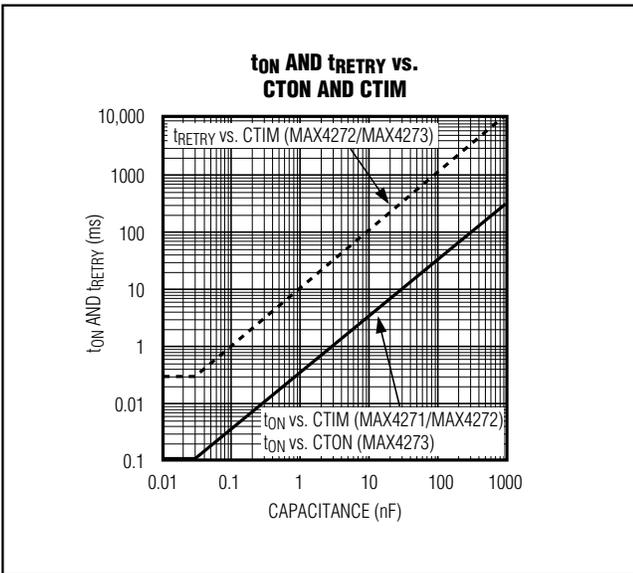

Figure 8. Startup and Retry Timeout
CTON determines the maximum time allowed to complete turn-on for the MAX4273. The default values for turn-on time (tON) and tRETRY are chosen by leaving these pins floating; they are 10μs and 320μs, respectively. These are also the minimum values (not controlled and dependent on stray capacitance). Longer timings are determined by the size of the capacitor according to Figure 8, and can be determined in Table 5, which lists the startup and retry timing parameters.
Use Figure 8 to determine CTIM given t_{RETRY} .
- From Figure 8, $C_{TON} = 3000pF$.